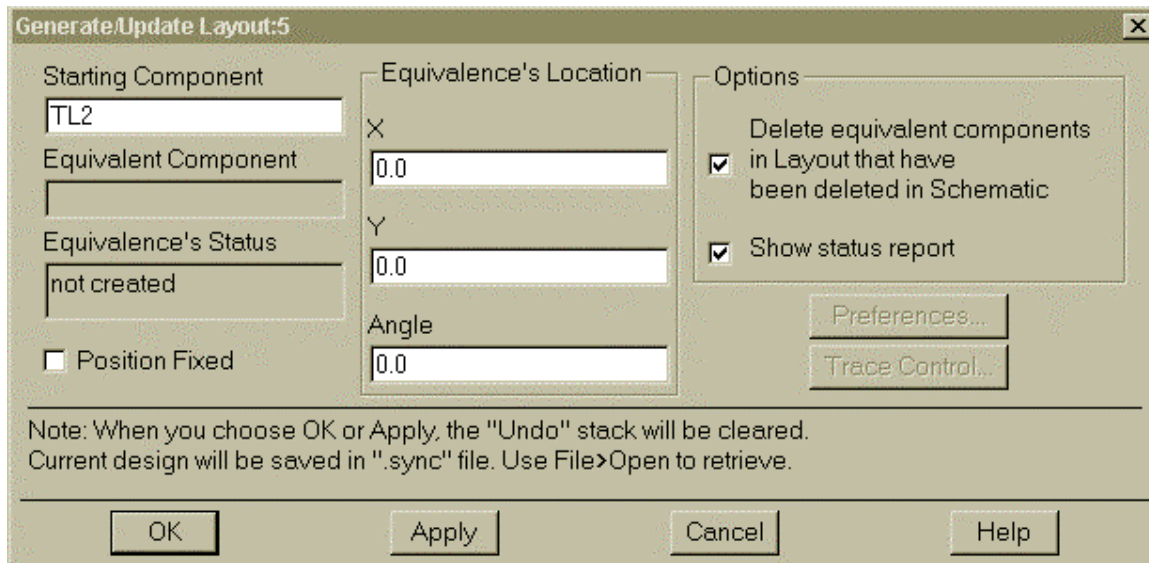

Figure 2. Pop-up window for the schematic capture process.
- 2) In the schematic window, click on Layout -> Generate/Update layout. In most cases, the parameters in the pop-up window (see Figure 2) do not have to be modified. (If you find the layout does not come out as expected, or you are combining multiple schematics, you may have to vary the default values.)